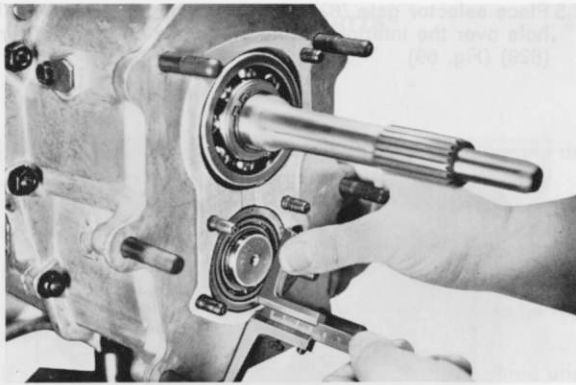

Fig. 61
1. With the larger internal dia facing the inside of the gearbox, place the outer ring of bearing (303) into the bore for the layshaft bearing of the front cover (101).
2. Push gasket (204) over the threaded studs.
3. Press shaft seal (207) into the bore of the withdrawal bearing carrier (206) with tool No. .9. Sealing lip must point to inside of the housing.
4. Gently tap layshaft with a plastic or lead hammer towards rear (output side) until the bearing outer ring lies on the speedo cover. Press down the front bearing outer ring and with a depth gauge, measure the distance from the upper edge of the bearing outer ring to the gearbox joint face with the gasket in place (Fig. 61).